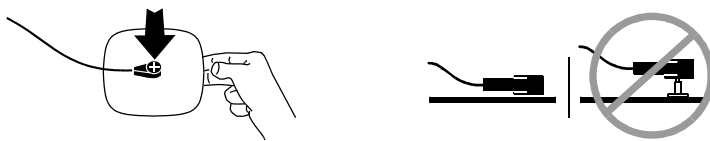

Figure 5-4 Connecting FAST-PATCH Electrodes to Defibrillation Cable
- 2 Support the electrode post when attaching the defibrillation cable (see Figure 5-4). Firmly press the cable onto the electrode until a click is heard or felt.